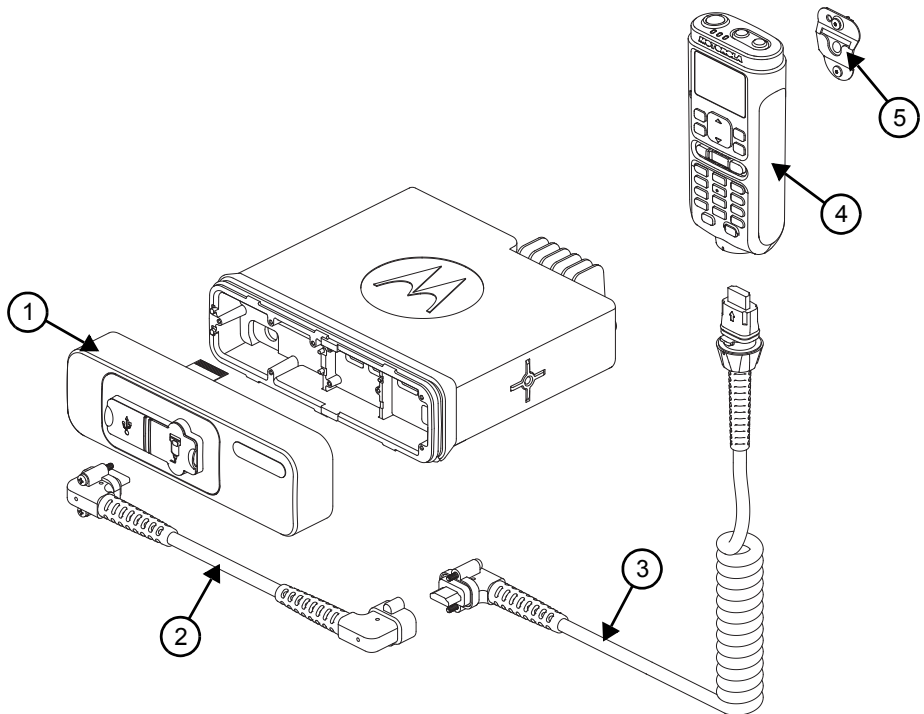

Figure 3. Handheld Control Head Assembly
1. Verify that the flex cable is fully seated in the connector on the handheld control head transceiver adapter. (See Figure 3.)
2. Assemble the flex cable to the flex connector in the radio assembly, making sure it is fully seated. (See Figure 3.)
1. Connect the cable to the transceiver adapter and fasten the two jack screws clockwise. (See Figure 3.)
2. Connect the other end of the cable to the handheld control head and turn the cable by the collar clockwise. (See Figure 3.)